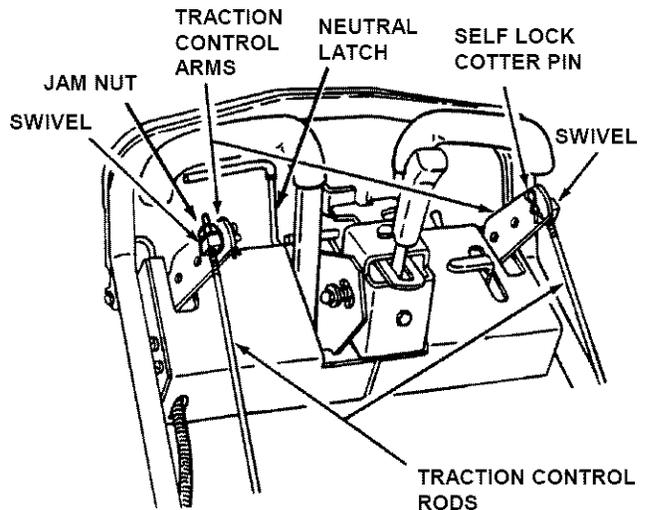

FIGURE 3.8
- STEP 2:** Place both Traction Levers in the Neutral position and engage Neutral Latch. See Figure 3.8.
STEP 4: Disconnect the swivel from the right and left traction control arms and loosen swivel jam nuts. See Figure 3.8.